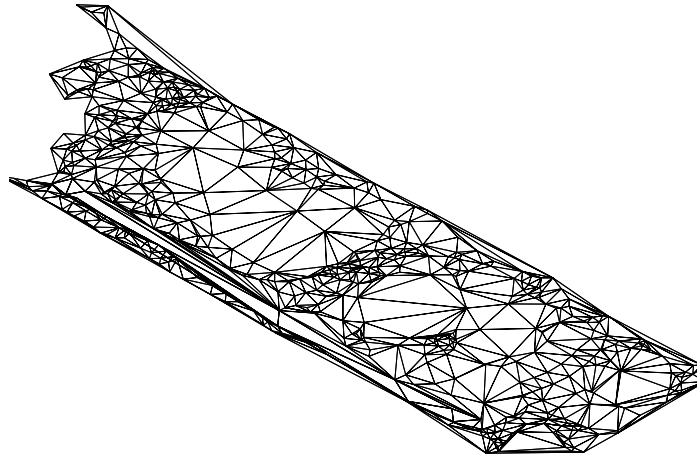

Figure 3-68 The **EG** surface after pasting the **E Street** surface
4. Select **E Street** from the dialog box and choose the **OK** button; the dialog box is closed and the **E Street** surface is pasted on the **EG** surface. Civil 3D has now recalculated triangulation and has built the **EG** surface taking breaklines into account. Notice the change of the **EG** surface in the region of added breaklines, refer to Figure 3-68.